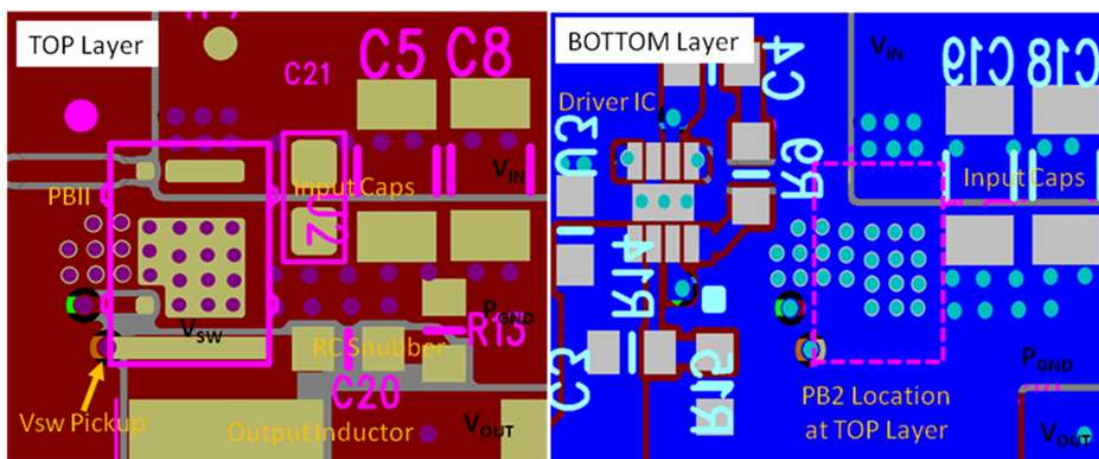

Figure 29. Recommended PCB Layout (Top Down View)
- The placement of the input capacitors relative to VIN and PGND pins of CSD87384M device should have the highest priority during the component placement routine. It is critical to minimize these node lengths. As such, ceramic input capacitors need to be placed as close as possible to the VIN and PGND pins (see Figure 29). The example in Figure 29 uses 1 × 10 nF 0402 25 V and 4 × 10 μ F 1206 25 V ceramic capacitors (TDK part number C3216X5R1C106KT or equivalent). Notice there are ceramic capacitors on both sides of the board with an appropriate amount of vias interconnecting both layers. In terms of priority of placement next to the Power Stage C21, C5, C8, C19, and C18 should follow in order.
- The switching node of the output inductor should be placed relatively close to the Power Block II CSD87384M VSW pins. Minimizing the VSW node length between these two components will reduce the PCB conduction losses and actually reduce the switching noise level. See Figure 29.⁽¹⁾
- Use the smallest drill size allowed in your design. The example in Figure 29 uses vias with a 10 mil drill hole and a 16 mil capture pad.